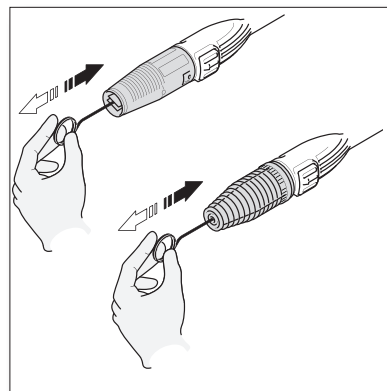

Fig. 21
- Using the nozzle tip cleaner provided (or an unfolded paper clip), insert the wire into the nozzle hole and move back and forth until debris is dislodged (**Fig. 21**). Back flush water through the nozzles using garden hose and highest pressure available (either standard water nozzle or use your thumb over the nozzle to create water pressure for back flush).